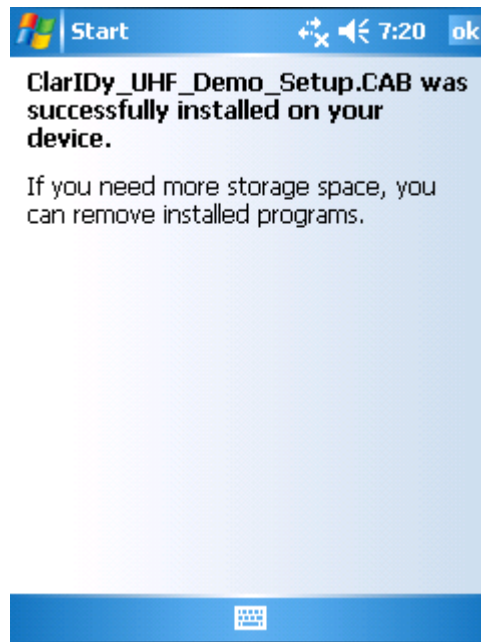

Figure 7
5. ClarIDy UHF Demo Program Was successfully installed on your device, as figure 7.